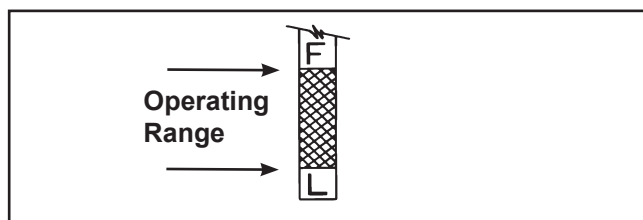

Figure 6-4. Oil Level Marks on Dipstick (Typical).
4. Remove the oil fill cap/dipstick and check oil level. The oil level needs to be within the operating range. See Figure 6-4. If low, add oil of the proper type up to the full mark. If oil is above "F" or FULL mark, drain oil to reach proper level. Reinstall the oil fill cap/dipstick and thread until tight.